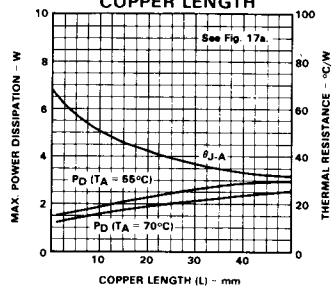

Fig. 12
In the latter case, *Fig. 12* shows the maximum dissipated power (for $T_A = 55^\circ\text{C}$) as a function of the side of two equal square copper areas having a thickness of 35 μ (1.4 mils).
- 2) From *Fig. 12*, and knowing $T_{A(\max)}$, calculate copper length ("L")
From *Fig. 12* $L \cong 25$ mm
The *Fig. 12* shows that no heat sink is required if $T_A \leq 55^{\circ}\text{C}$.